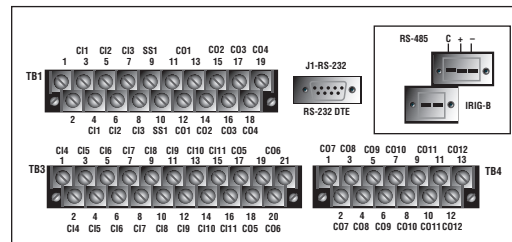

Figure 40. Back view of top half of Form 6 pole-mount recloser control
- Remove any control input and status output wiring from TB1, TB3, and TB4 (**Figure 40**).
- Disconnect any serial communications ports and IRIG-B timing connections (**Figure 40**).